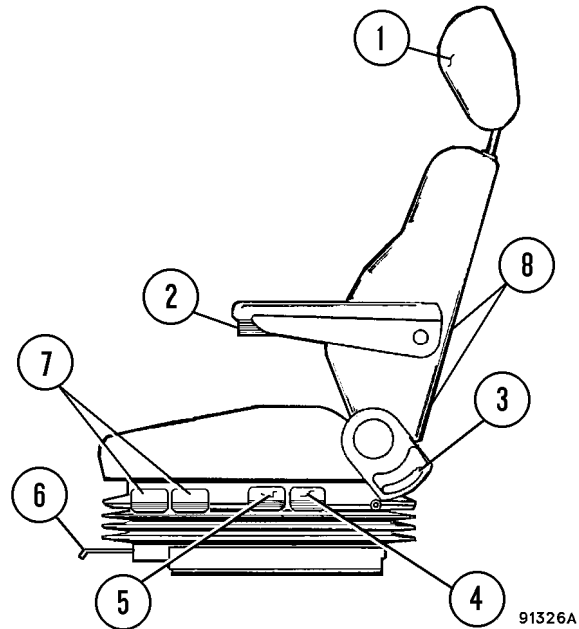

FIGURE 4-7. OPTIONAL SEAT –
1. **Headrest:** headrest (1, Figure 4-7) will move up, down, fore, or aft by moving headrest to desired position.
2. **Armrests:** rotate adjusting knob (2) until until armrest is in desired position.
3. **Backrest:** Rotate control (3) upward and hold, select backrest angle; release control handle.
- a. Rear height and slope; lift control lever (4) and hold.
- a. Front height and slope; lift control lever (5) and hold.
- a. Raise adjustment lever (6).